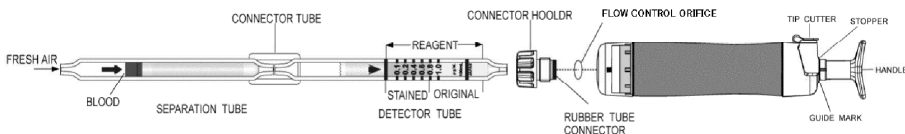

Fig.1
- **MAKE SURE TO ATTACH THE FLOW CONTROL ORIFICE TO THE ASPIRATING PUMP PRIOR TO MEASUREMENT AS SHOWN IN Fig.1.**
- ① Break both ends of a detector tube and a separation tube.
- ② Connect the detector tube and separation tube with the connector tube as shown in Fig.1.
- ③ Insert the detector tube into the aspirating pump securely. (An arrow mark of each tube should point to the aspirating pump.)
- ④ Take 0.3mL of blood into a syringe and insert it into the separation tube.
- ⑤ Align the guide marks on the handle and the stopper of the aspirating pump.
- ⑥ Pull the pump handle at a full stroke until it locks and wait for 3 minutes to aspirate fresh air.
- ⑦ Remove the detector tube from the rubber tube connector and read the scale at a maximum point of a stained layer.